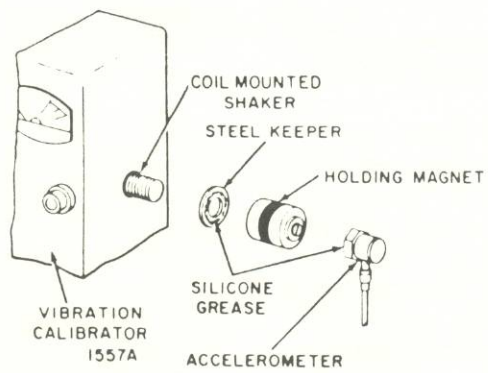

Figure 3-29. Configuration to mount the 1560-9653 pickup on the 1557-9802 calibrator.
- a. Remove one of the 50-g weights on the 1557 shaker (see Figure 3-29).
- c. Mount the magnet and pickup on the keeper as shown in Figure 3-29.